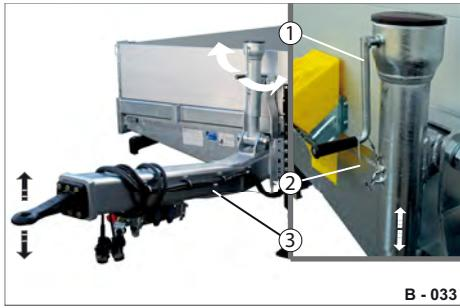

Fig. 40 Height adjustment of drawbar
- ▶ Unclamp the securing cable (Fig. 40/2).
- ▶ Turn the crank (Fig. 40/1) clockwise or anticlockwise and adapt the height of the drawbar (Fig. 40/3) of the pin coupling (Fig. 43/2) on the towing vehicle.
- ▶ Position the crank (Fig. 40/1) downward.
- ▶ Clamp the securing cable (Fig. 40/2). The crank is secured against turning of its own accord.